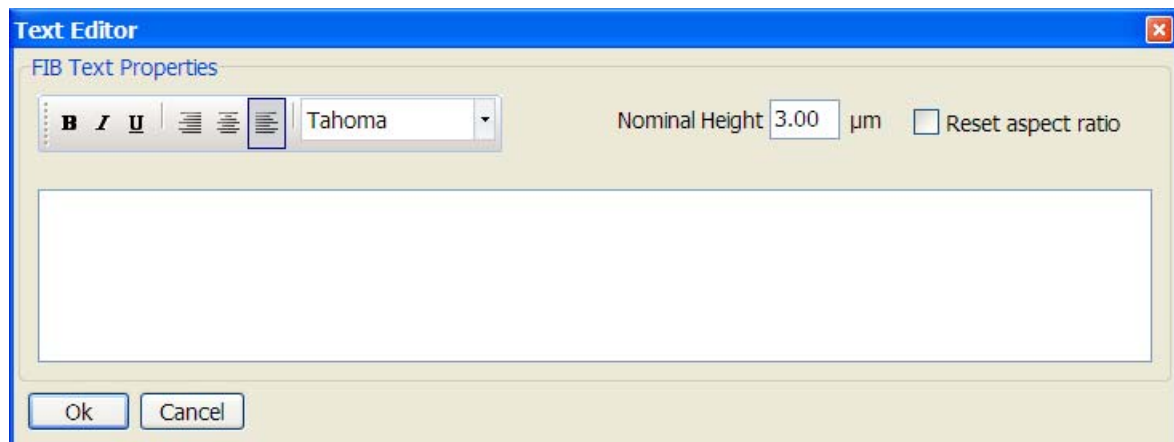

Figure 15 : FIBText Editor.
3. A popup box will appear (Figure 15). Enter text in textbox. Font and Style can be modified and nominal height can be set.
Before a shape can be edited, it must be selected. Left-clicking on a shape in the Visualization Panel will select the shape. When the mouse is over a selectable shape, the standard cursor will turn into the Select/Move cursor (Figure 15).